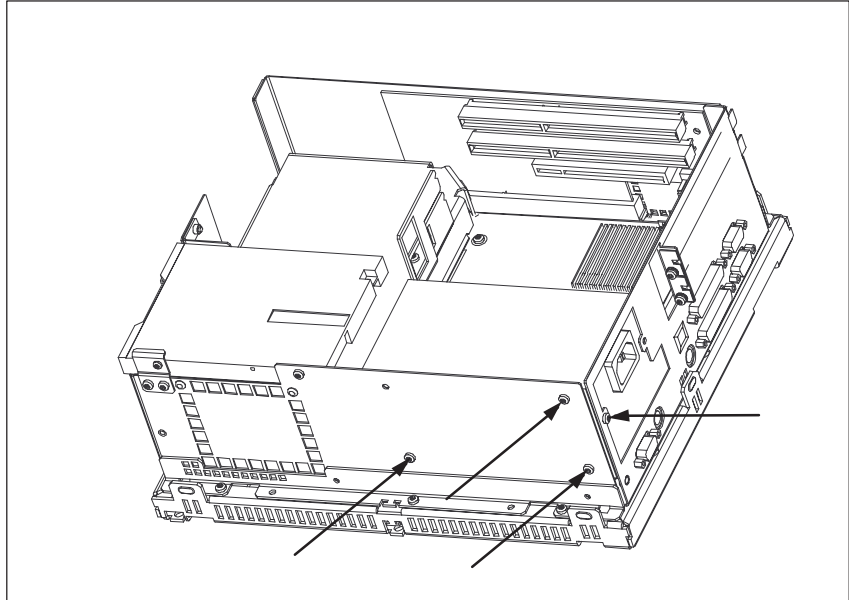

Figure 1-31 Removing and Installing the Power Supply Unit
- Release the three screws on the fan side of the computer housing and the screw on the port side (see Figure 1-31).